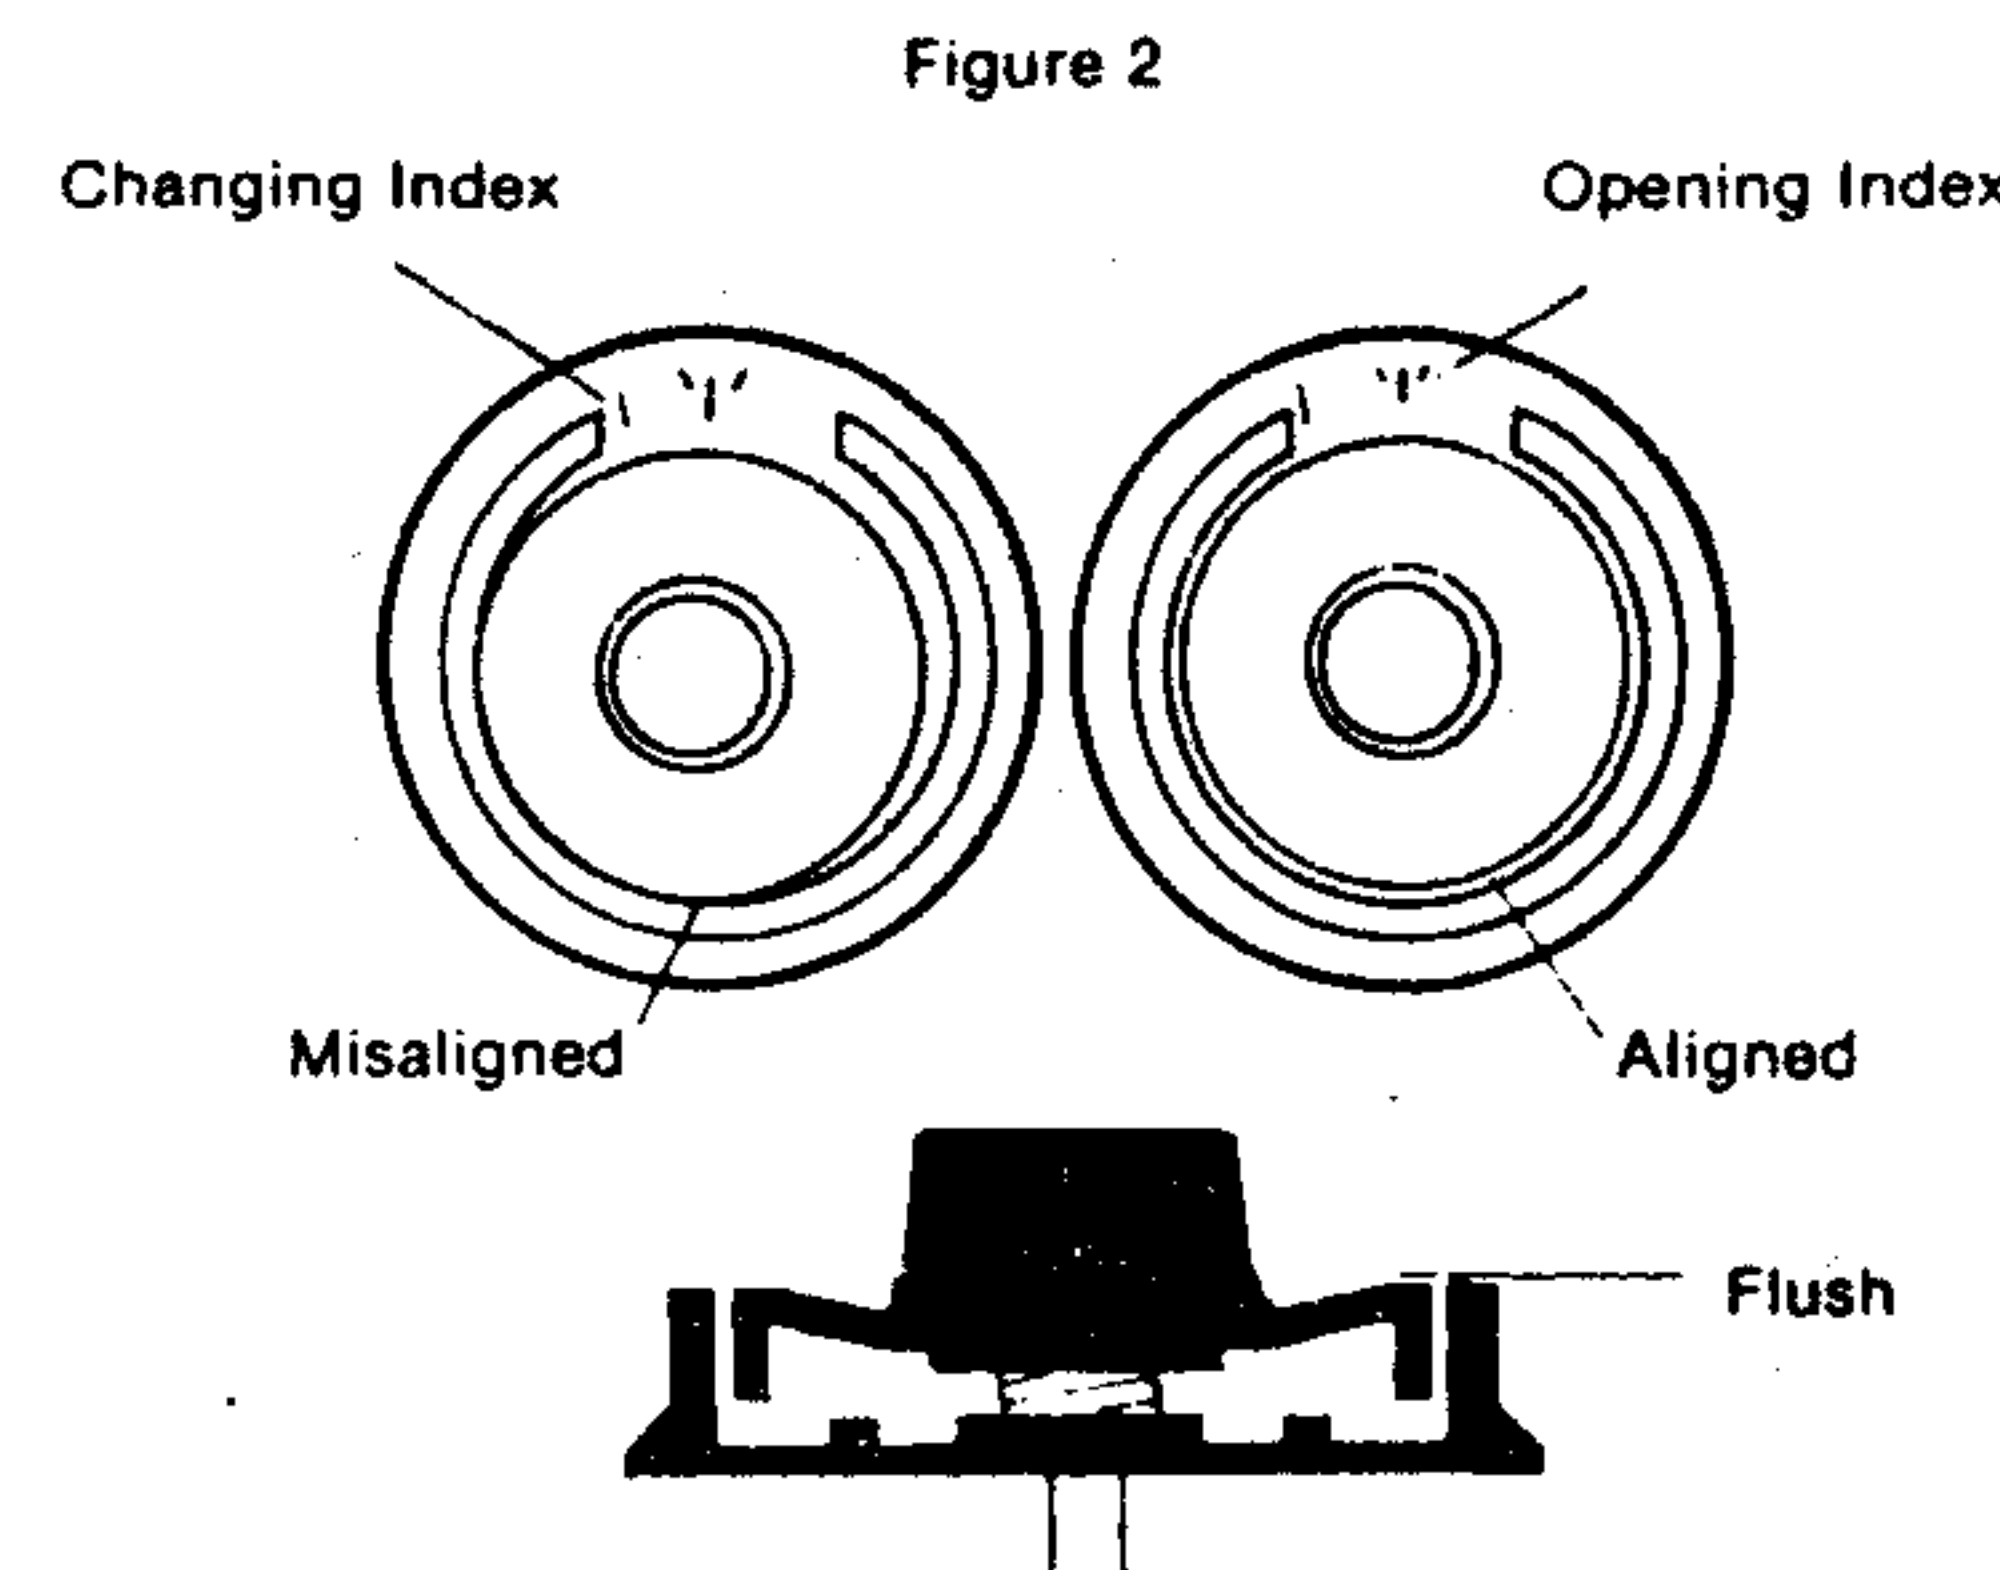

Figure 2
5. The alignment of the dial and dial ring is critical to the operation of the lock. Perfect alignment must be obtained. The dial should be flush and centered with the surface of the dial ring, for true center (Fig. 2).